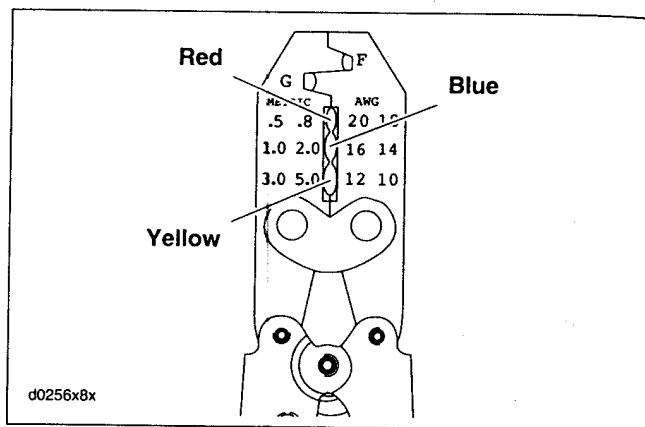

Figure B-18. Packard Crimp Tool
4. See Figure B-18. Determine the correct dye or nest for the crimping operation. Match the color or gauge wire marked on the butt splice connector with the corresponding crimp cavity on the crimp tool.